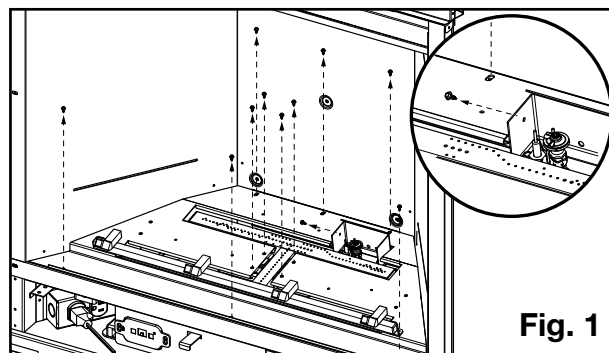

Fig. 1
- ☐ 2. Remove 11 screws securing the media tray in place. Lift the tray up and out of the appliance (**Fig. 1**).